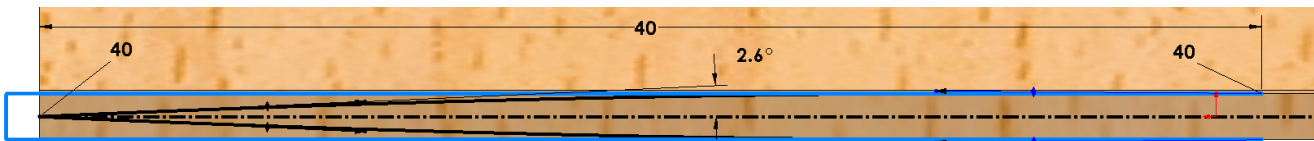

Fig. 30
Step 18. Click **Line**  (L) on the Sketch toolbar.
Step 19. Draw **3 lines**, **Fig. 30**. Draw lines starting from the endpoint of spline around Wing and extend out beyond trailing edge. I changed color of lines for clarity. You don't change color.